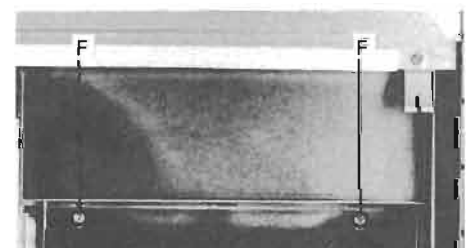

Fig. 2.6
2.6 Replacing the meter illumination lamps (Fig. 2.6)